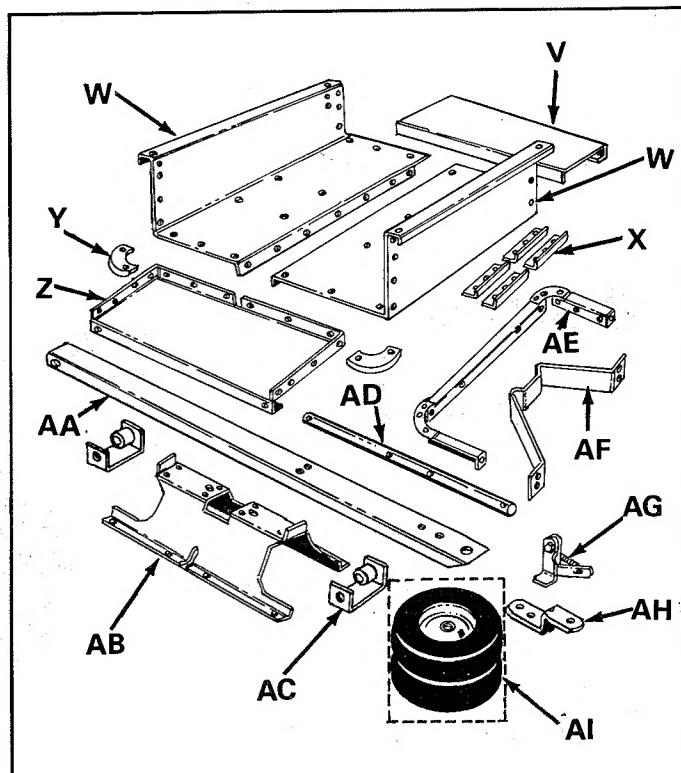

FIGURE 2
(See figure 2)
LOOSE PARTS (See figure 2)
2. Layout all the parts as shown in figure 2.